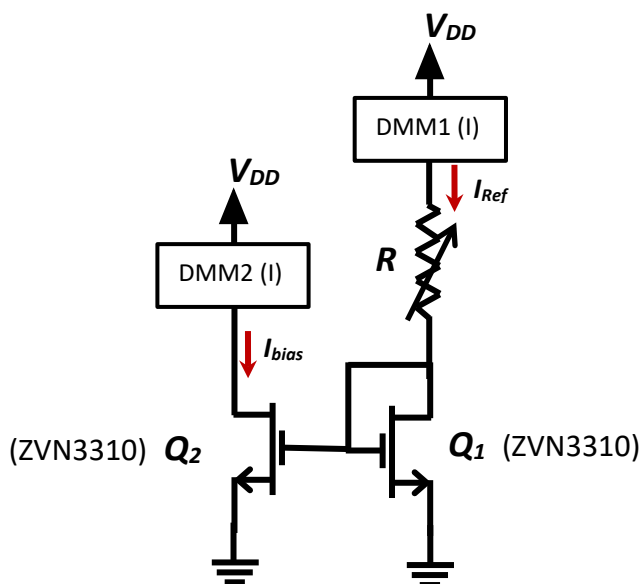

Figure 2 Current mirror source.
In analog VLSI design, amplifiers are biased using current mirror sources due to their efficient structure in terms of area and power consumption. In this experiment, you will build a current mirror source to supply a constant DC current using two ZVN3310 NMOS transistors in your parts kit. The circuit diagram for the current mirror source is shown in Figure 2. It contains two transistors Q1 and Q2 that are ideally identical as they have the same processing parameters (V_t , K_n , γ , ...) Typically, VLSI designers adjust the W/L ratio for each transistor to provide desired bias current. In the circuit shown, Q1 acts as a reference transistor that provides I_{Ref} through R which biases the gate voltage to some determined value V_G . The gate voltage is reflected to Q2 which acts as the biasing current source that biases the circuit. The current of Q2 (the bias current) is adjusted by designing the proper W/L ratio of Q2. The current in Q2 is determined by the following equations
1. Using two ZVN3310 NMOS transistors (one for Q_1 and one for Q_2), construct the current mirror circuit of Figure 2 with a reference current $I_{Ref} = 1$ mA and $V_{DD} = 5$ V.